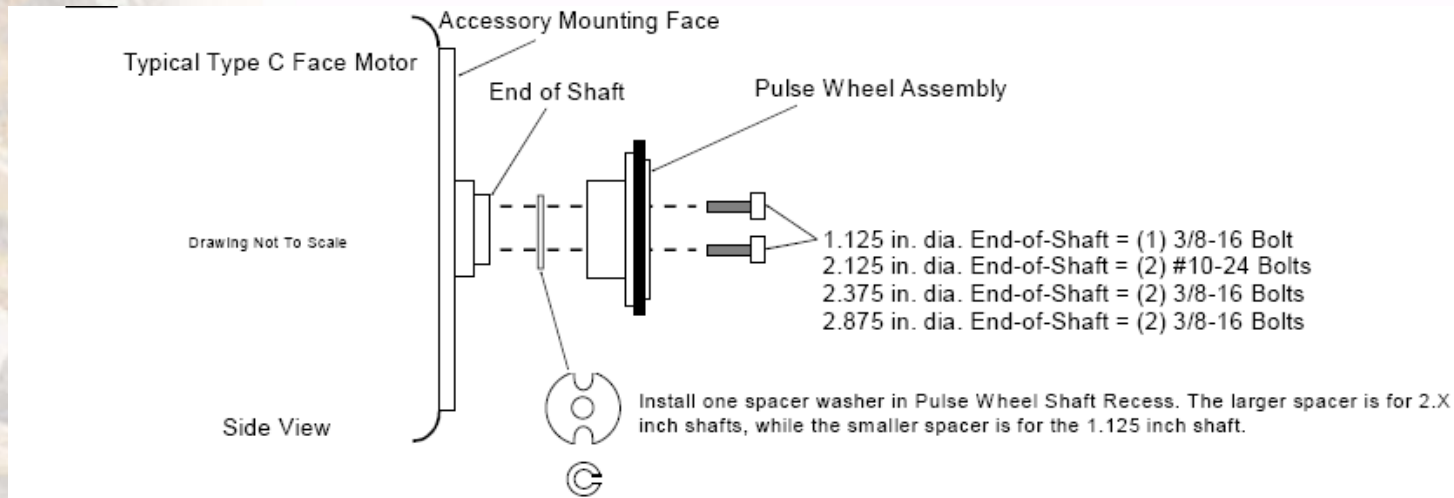

Figure 12: Pulse Wheel Assembly
- **Referring to Fig. 12 above of the instruction manual**